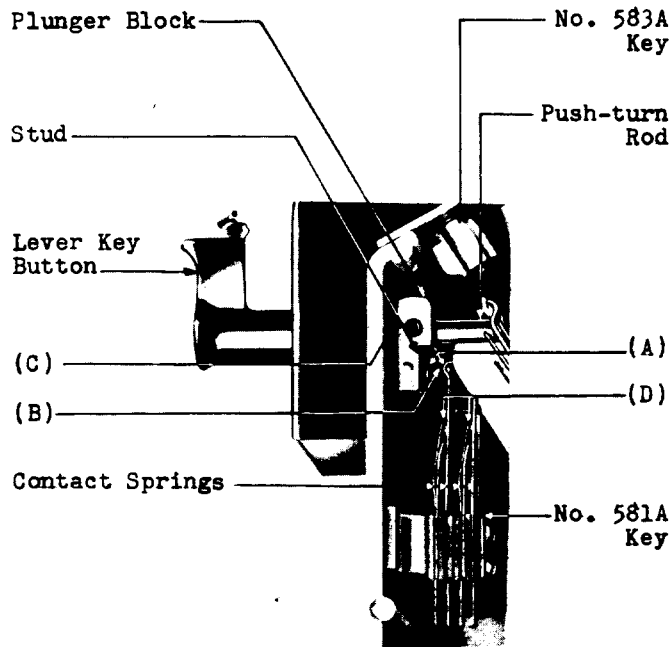

Fig. 8 - No. 581A Key - Plunger Block Position
(a) Fig. 8 (A): With the key in the normal position, the center of the stud on the plunger block shall be approximately in line with the center of the crimp at the end of the key spring. Gauge by eye.
(b) Fig. 8 (B): With the longitudinal play in the push-turn rod taken up towards the front of the cord unit there shall be a clearance between the surface of the stud on the plunger block and the adjacent surface of the crimp on the key spring of approximately 3/32". Gauge by eye.
(c) Fig. 8 (C): With the longitudinal play in the push-turn rod taken up towards the front of the cord unit, there shall be a clearance between the plunger block and the push-turn rod bushing in the frame of Min. .010" Gauge by eye.
2.19 Contact Separation - Fig. 8 (D):